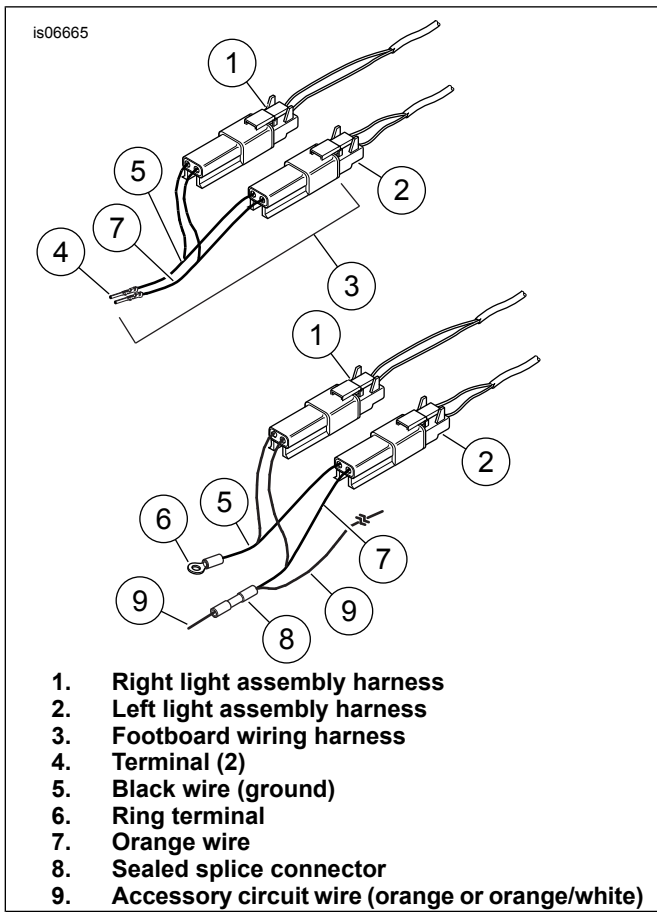

Figure 11. Electrical Connections - All 1993 and Earlier and 2010 and Earlier Softail Models
1. See Figure 11. Plug the right (1) and left (2) light assembly wiring harnesses into the footboard wiring harness (3) supplied in the kit.
2. Cut the existing terminal from the black wires (5), as close to the connector as possible. Strip a 10 mm (3/8 in) section of insulation from the end of each wire to be spliced, and install a ring terminal (6) supplied in the kit.
3. Connect the ring terminal (6) to a ground stud located under the seat.